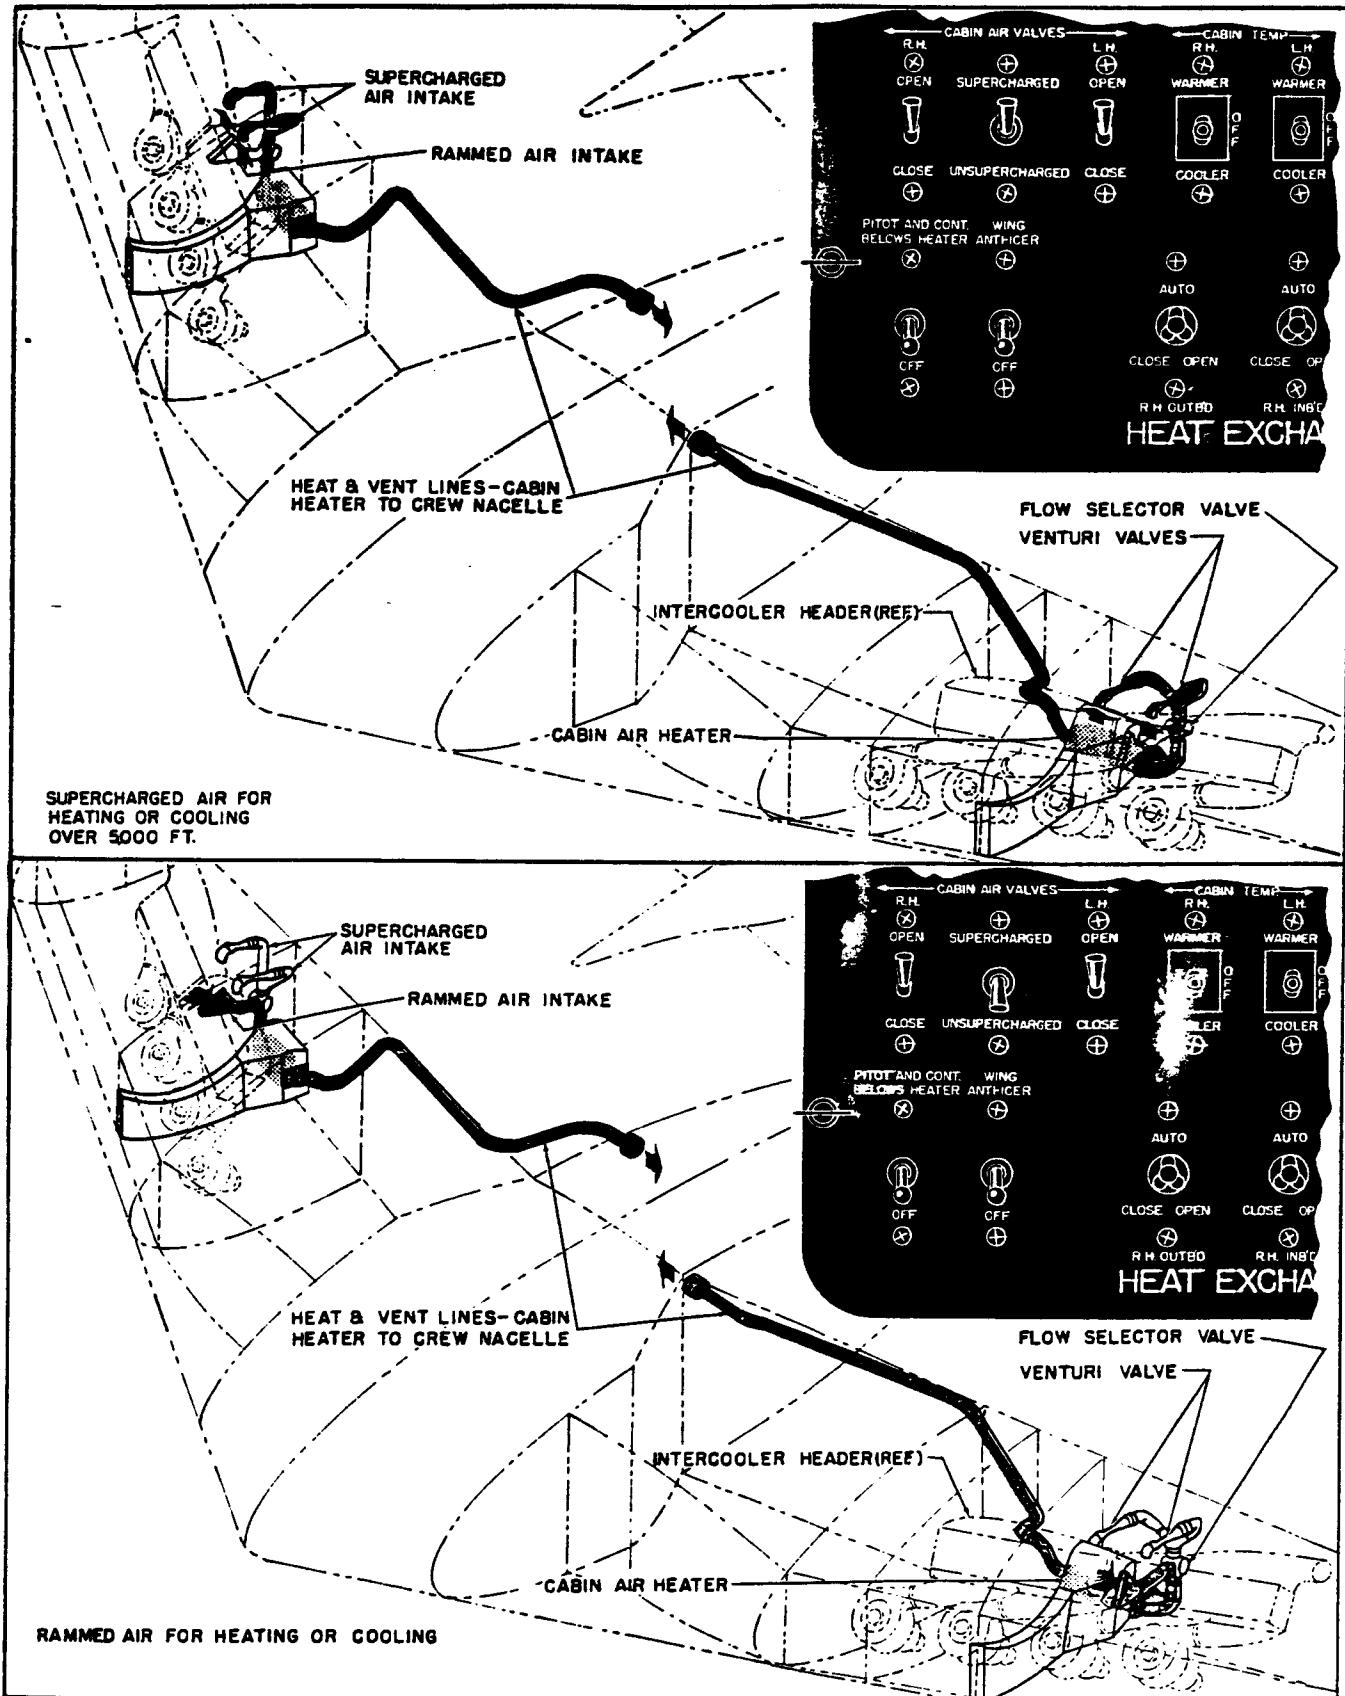
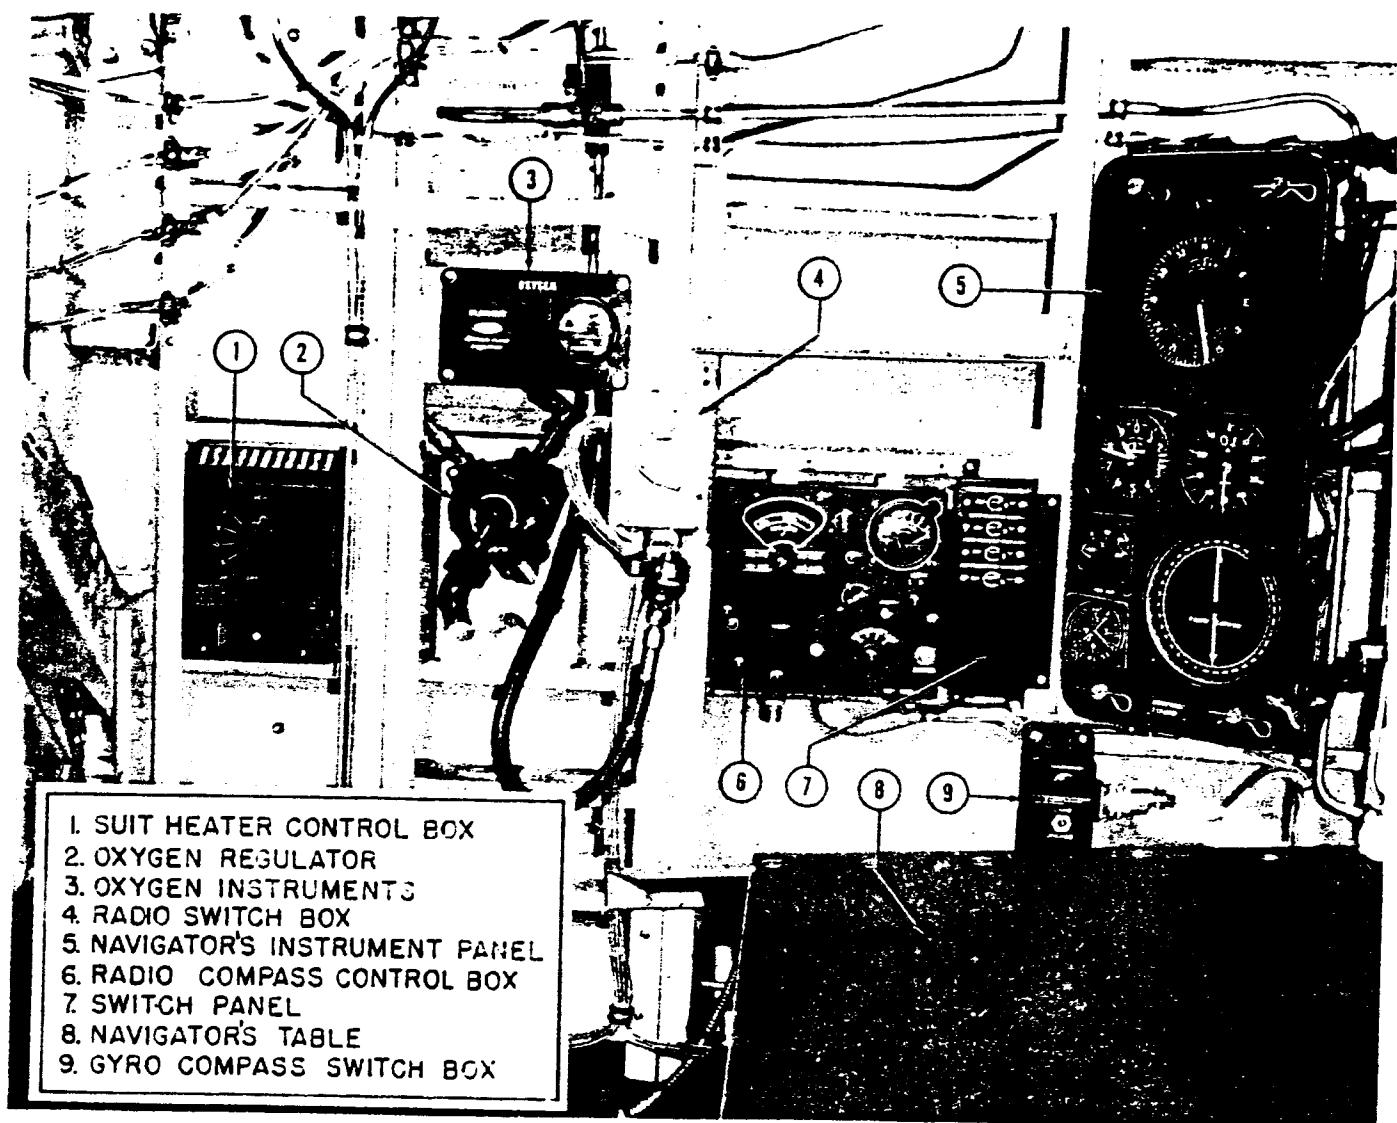

Figure 6. Heat, Vent, and Cabin Supercharging System
Figure 7. Navigator's Station
b. RADIO COMPASS AN/ARN-7.- The radio compass is used in navigation to take bearings on two or more radio stations to establish a fix, to home on (fly directly toward) any radio station, or simply to listen to any radio station in the frequency. Two radio compass control boxes are located in the airplane; one at the aft end of the pedestal between the pilot and copilot and the other is located on the cabin wall at the navigator's station. A radio compass indicator is located on the pilots' instrument panel and a master indicator is provided for the navigator. (See figure 7.) Two antennae are used with the radio compass; a loop antenna and a "sense" antenna, both of
d. OXYGEN.- The navigator's oxygen controls are mounted on the cabin wall to the left of the radio compass control box. (See figure 7.) A recharger hose assembly for filling the portable oxygen bottles is installed adjacent to the oxygen regulator. Refer to paragraph 1, c. in this section for instructions regarding the use of the recharger assembly.
(1) GENERAL.- Air that has been heated while passing through each inboard engine exhaust heat exchanger is ducted to a cabin heat exchanger in each wing. This heated air is passed through or around the cabin heat exchanger and is then dumped overboard through a waste gate in the lower skin of each wing. Cabin air, either supercharged (from the intercoolers) or unsupercharged (ram), is passed through the cabin heat exchangers. Here the air is heated or allowed to remain at its initial temperature before being discharged into the crew nacelle. This system has been designed so that the supercharged air could be used for cabin pressurization, however, this airplane is not equipped with a sealed crew nacelle so it cannot be pressurized. (See figure 6.)
(2) CONTROLS. (See figure 6.)- Cabin air temperature is controlled by motor-operated valves which regulate the amount of hot air passed through the cabin heat exchangers. The valve for each heat exchanger is controlled by a switch marked CABIN TEMP. Two switches, identified as CABIN AIR VALVES RH-LH, open or close valves in the cabin air discharge ducts. The switch marked "SUPERCHARGED-UNSUPERCHARGED," selects supercharged air from the intercoolers or rammed air from scoops in the leading edge of the wings.
(3) OPERATION.- Move the two CABIN AIR VALVE switches to the "OPEN" positions and place the third switch on either "SUPERCHARGED" or "UNSUPERCHARGED." Regulate the temperature of the cabin by momentarily holding the CABIN TEMP. switches to the "WARMER" or "COOLER" position.
5. NAVIGATOR'S STATION. (See figures 7 and 8.)